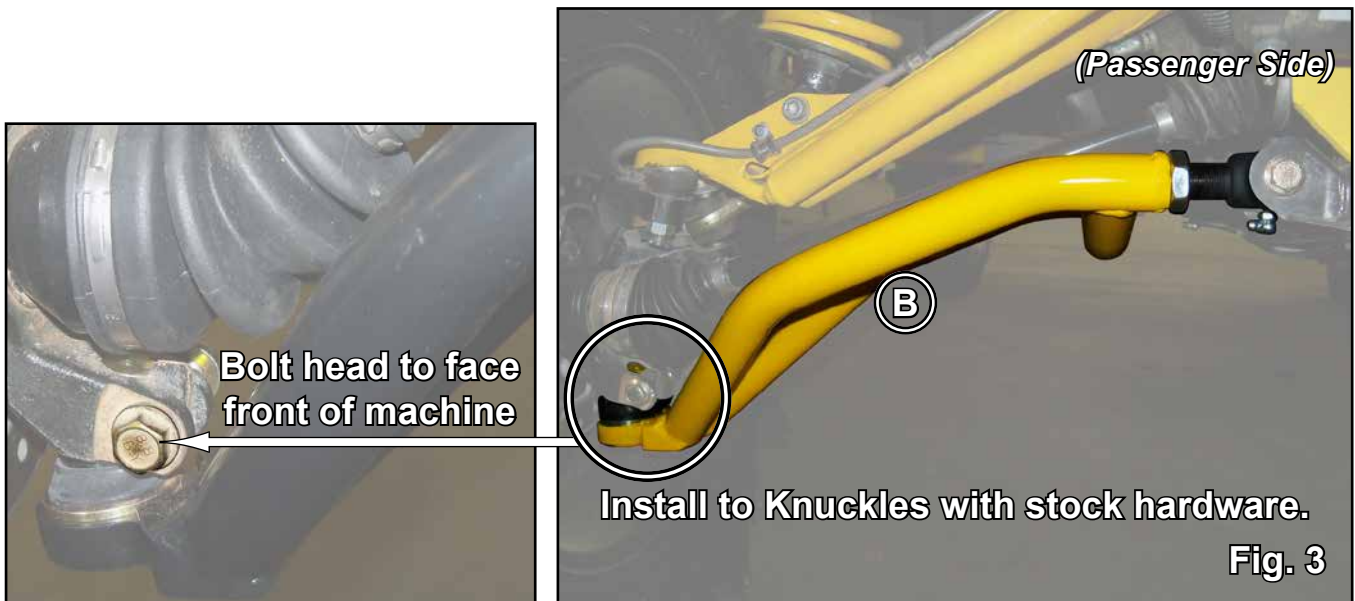

Fig. 3
- Install Lower A-Arms (A)(B) to Knuckles with stock hardware. See Fig. 3.